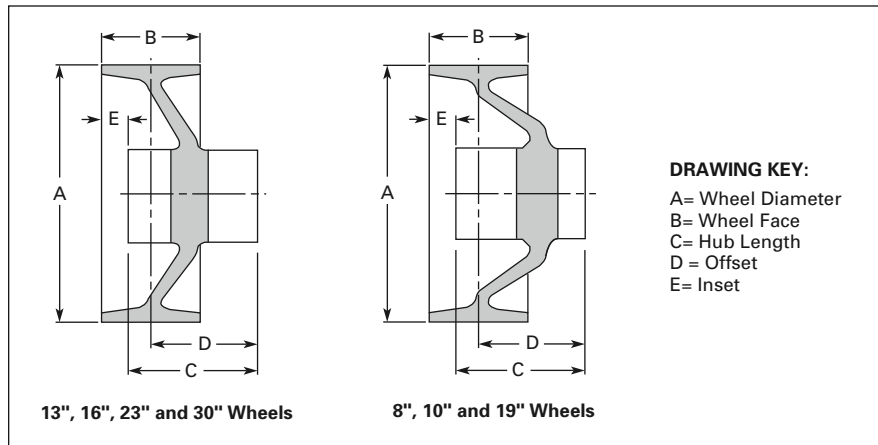

Figure 4. Brake Wheel Dimensions
① 400 - 600 - 800 ac motor frames all per AISE specifications. See Page 12 for dimensional compatibility.
② See dimensional drawing, Figure 4 on Page 11.